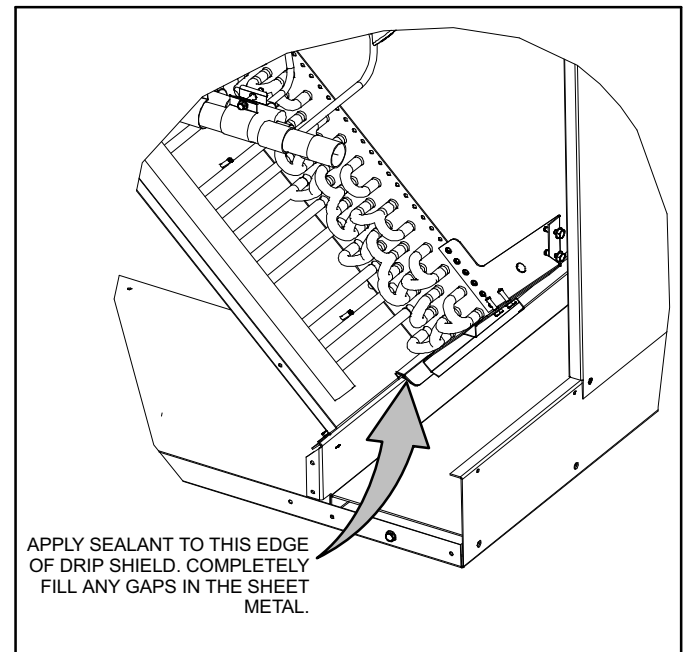

Figure 7. Applying Sealant to Drip Shield Edge
13. Apply sealant to the location shown in figure 7. Completely fill the gap where the drip shield extends through the coil support.